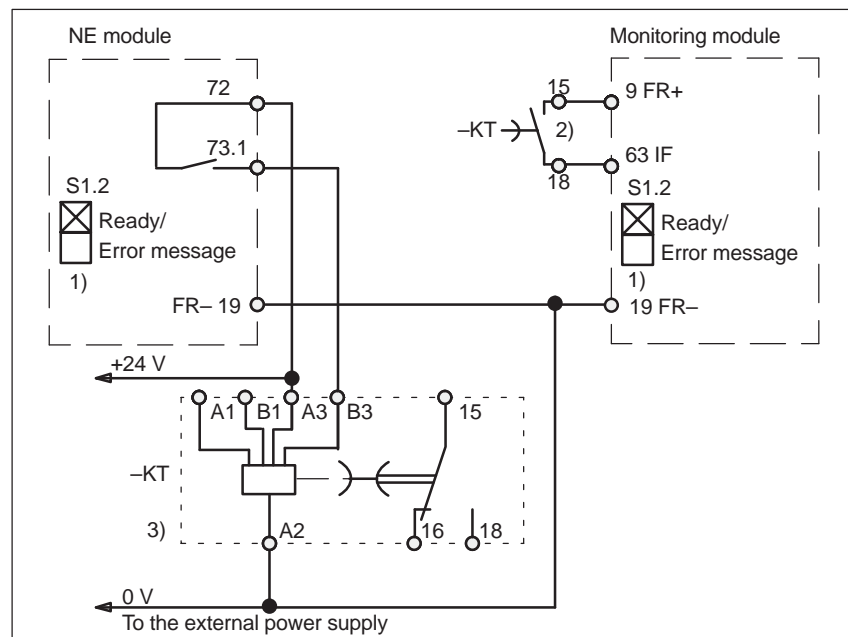

Fig. 8-6 Delayed shutdown, pulse enable
- Delayed shutdown pulse enable → refer to Fig. 8-6